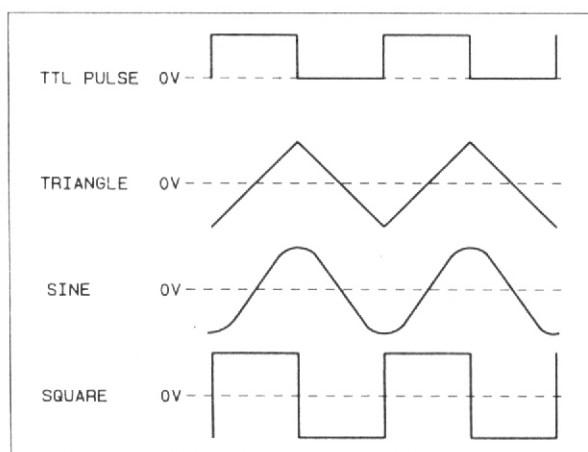

Fig. 2-12. PHASE OF OUTPUT WAVEFORM
1. Select the desired waveform and frequency by selecting the FUNCTION switch (34) and RANGE switch (21), and by adjusting the FREQUENCY control (24). At this time (TTL, 50 ohm), the output frequency also is always same as the selected frequency, and the frequency range that can be varied with FREQUENCY control (24) is 0.1 to 1 of the frequency value of selected RANGE. At this point in time, as the frequency of graticule lines has the error of as much as approx.  $\pm 20\%$ , use the external FREQUENCY COUNTER or the oscilloscope installed inside this equipment.
2. Select the desired output waveform with the FUNCTION switch (34). The phase of each output waveform is as shown in Figure 2-12.